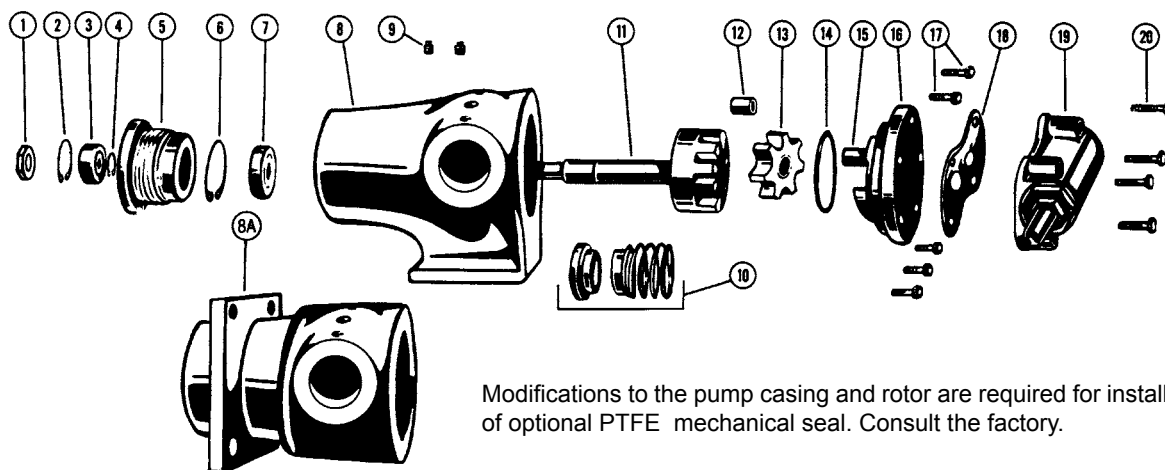

FIGURE 7 - EXPLODED VIEW FOR MODELS GG, HJ AND HL 4195 AND 495
1. Refer to **Figures 7 & 8**, page 5 for model to be disassembled and name of parts. Models 4195 & 495 are disassembled and assembled in the same manner. The difference between these models is the casings.